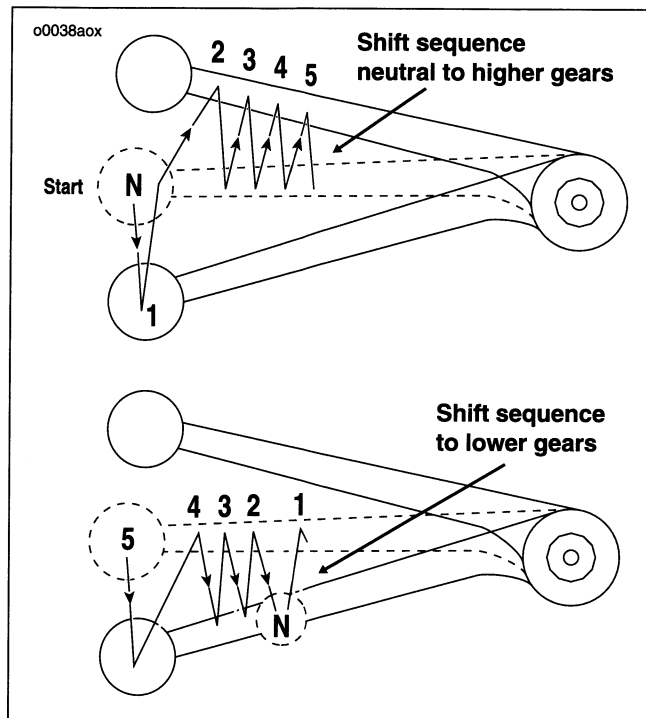

Figure 29. Foot Shifter Lever
See Figure 29. Always start motorcycle engine in neutral. Always start motorcycle from first gear when the engine is running.
3. See Figure 29. Push the foot shifter lever down firmly, but gently, to end of its travel and engage first gear.
See Figure 29. By lifting the gear shifter lever up, a higher gear is engaged; by pushing the gear shifter lever down, a lower gear is engaged. When stopping, operate gear shift until you reach neutral. Neutral is 1/2 stroke up from first gear.
5. See Figure 29. Gear shift pattern is first gear down; next four gears up.